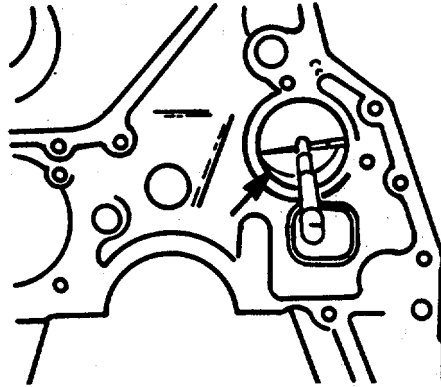

FIGURE 4-94. Measure Installed Cam Bushings
- j. Use an inside dial bore gauge to measure the installed cam bushing. (FIGURE 4-94)